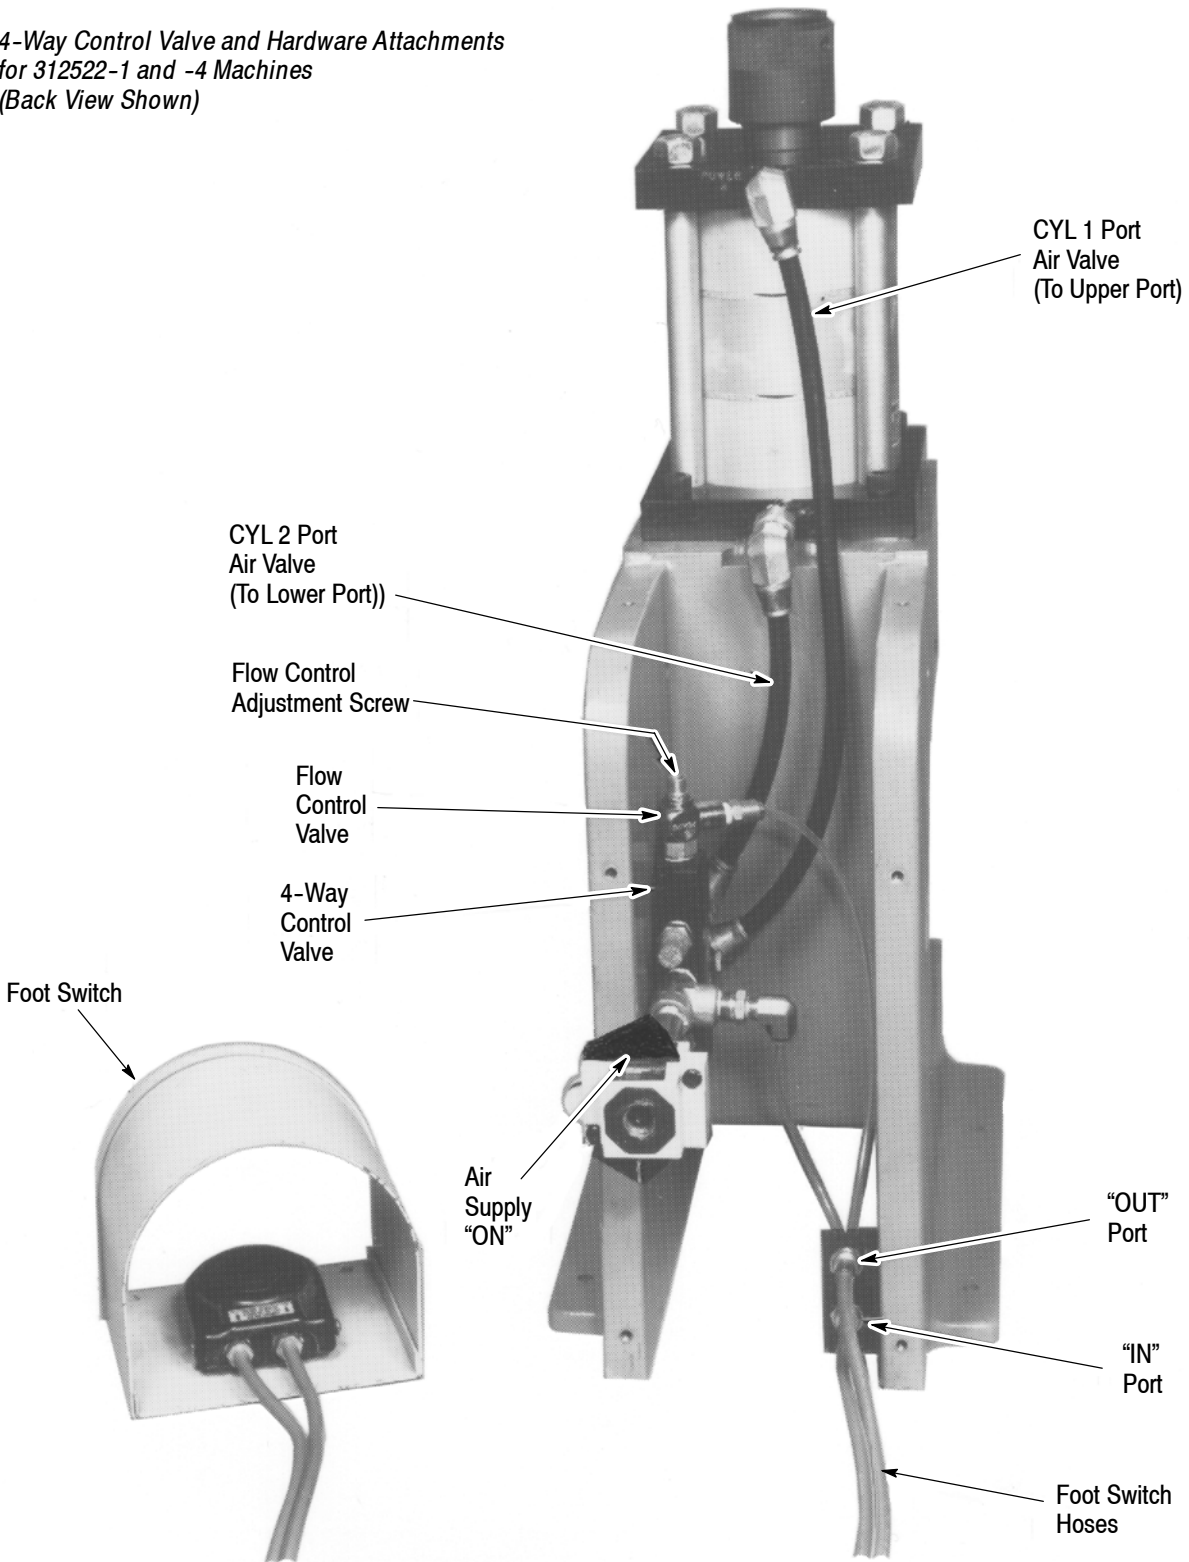

Figure 13
Adjustment of the time delay is achieved by closing or opening the flow control valve on the 4-way control valve (main power valve). This adjustment is pre-set at the factory to 1.5 seconds and should not require further adjustment. However, if an adjustment is required, turn the flow control adjustment screw **CLOCKWISE** to **INCREASE** the time delay, or **COUNTERCLOCKWISE** to **DECREASE** the time delay. See Figure 13.
5.1. Troubleshooting 312522-1 and -4 Machines (Figure 13)
2. Check air supply to and from foot switch. The “IN” and “OUT” ports are marked, as shown in Figure 13.
3. Check 4-Way Control Valve and Flow Control Valve (see Figure 13); proceed as follows: